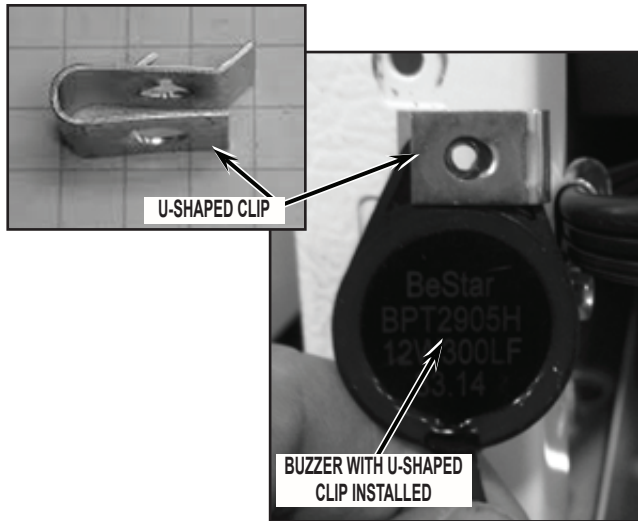

FIGURE 5
8. Install the U-shaped clip on the buzzer. Note orientation of the U-shaped clip on the buzzer. See *Figure 5*.